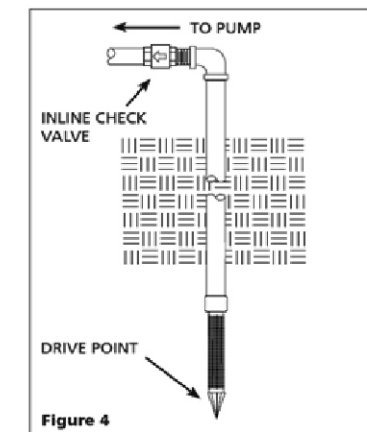

Figure 4
- As an alternative, an in-line check valve can be used with a driven well (Figure 4). It may be necessary to supply the pump with multiple well points to maintain the high flow capability of this pump. Consult with a plumbing professional for appropriate materials and installation instructions. Leaking joints or couplings will allow air to leak into the pipe and cause poor pump operation or difficulty priming. Make sure to use pipe joint compound or plumber's seal tape on all threaded pipe connections.